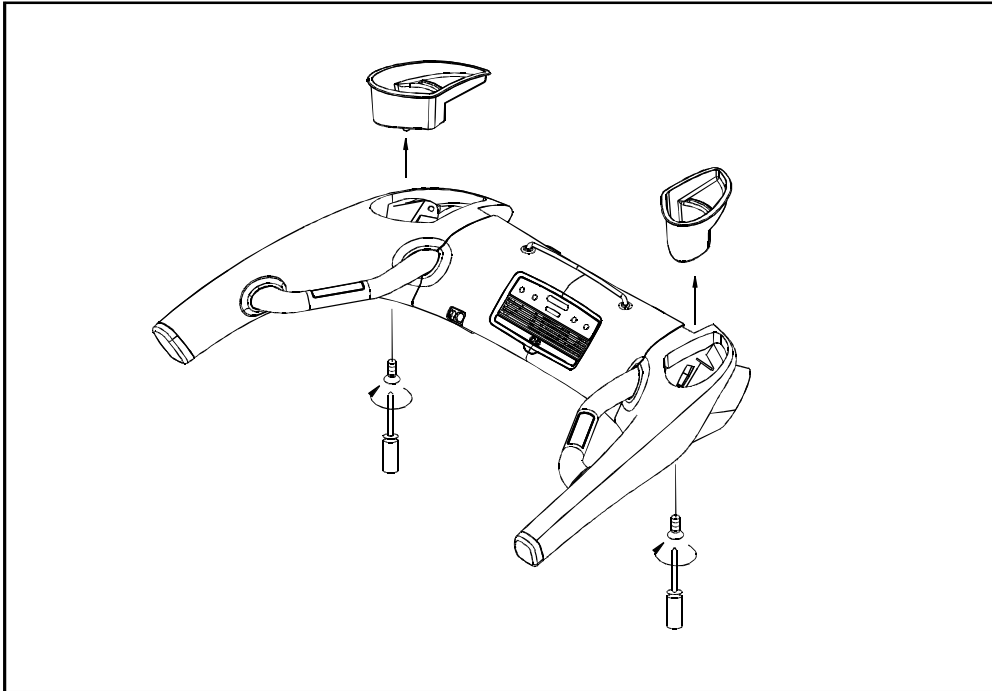

Fig.3
**STEP 3.** Use the PHILLIPS-HEAD SCREWDRIVER to remove left and right cup holders. (See Fig. 3.)